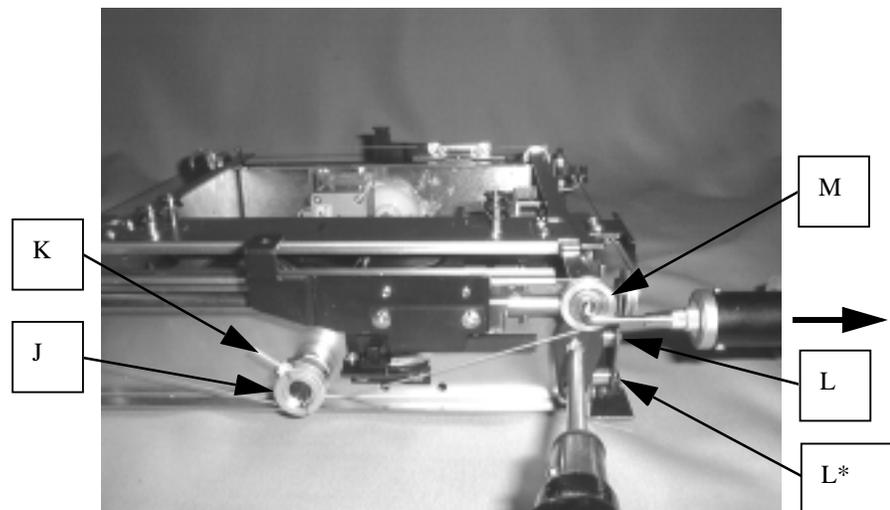

FIGURE 14-7
14. Apply the wire to right and left wire pulleys (M), tighten setscrews (L)(L\*) temporarily, and cut grip band (K) which fixes the wire with due care so not to scratch the wire.
15. Pull wire pulley (M) in the arrow direction with about 7 Kgf as shown in Fig.14-7, and tighten setscrews (L)(L\*).
16. Turn right and left pulley (J) several turns clockwise and counterclockwise, and check wire (I) for tension. If the tension of wire (I) is not suitable, pull the wire pulley (M) again.